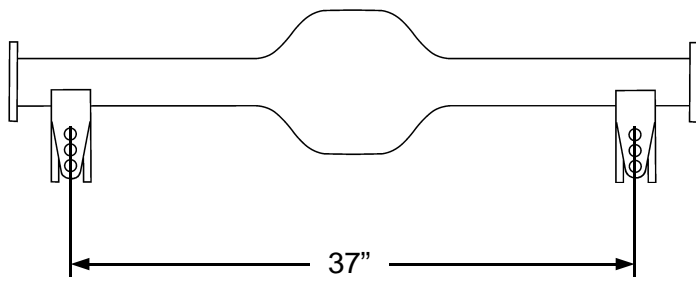
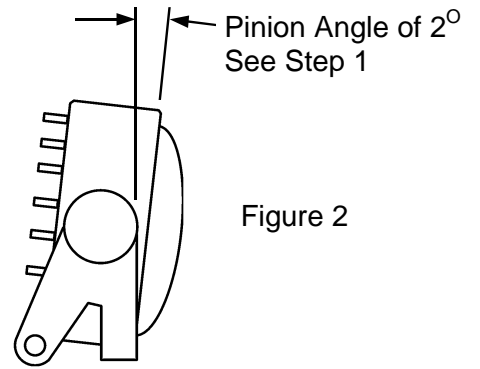

Figure 1
Figure 2
1. Begin by installing the Axle Brackets onto the housing. They are located 37" apart, as shown in Figure 1, and on the 2° angle shown in Figure 2, which is the pinion angle. Your pinion angle may not be 2°, but it must be determined at this time. Make sure that both Brackets are the same distance from the ends of the axle housing. The Axle Brackets should be tack welded to the housing, and the assembly double checked for square and correct pinion angle.